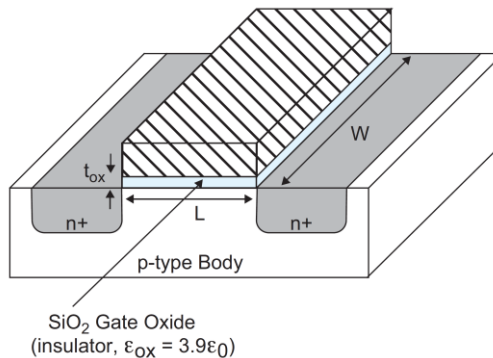

Figure 6: Transistor dimensions
- ✓ If the gate has length L and width W and the oxide thickness is t_{ox} , as shown in Figure 6, Then the capacitance C_g is